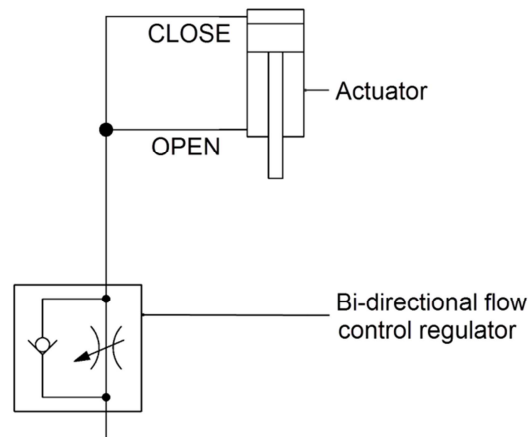

Figure 6-3
4. Connect the air supply to the actuator as shown in Figure «Figure 6-3».